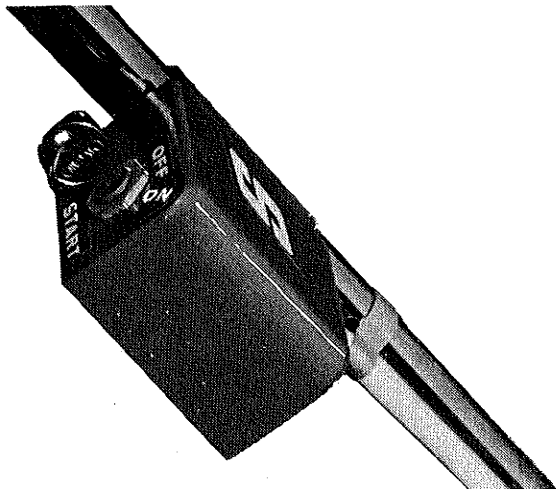

FIGURE 1
1. Ignition Switch (Electric Start Models Only): When turned clockwise to the first position, the ignition is turned on. Turn past this position to actuate the starter. Release the key as soon as the engine starts. Return the key to the vertical position to stop the engine. (See Figures 1 & 3).